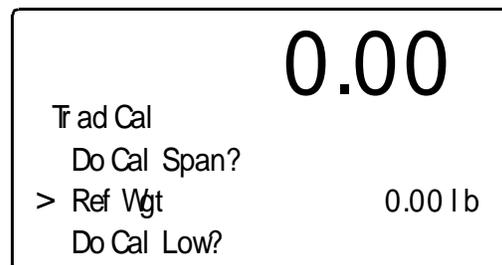

FIG. 2-7 CALIBRATION ENTERING REFERENCE WEIGHT
Step 12. Press the Enter button. The "Trad Cal" menu appears, with the cursor pointing to "Ref Wgt." (See Fig. 2-7)